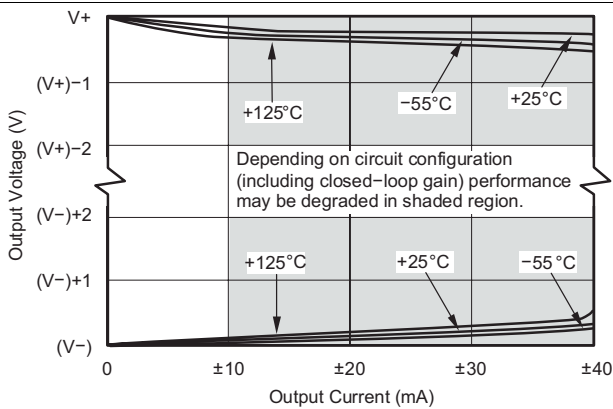
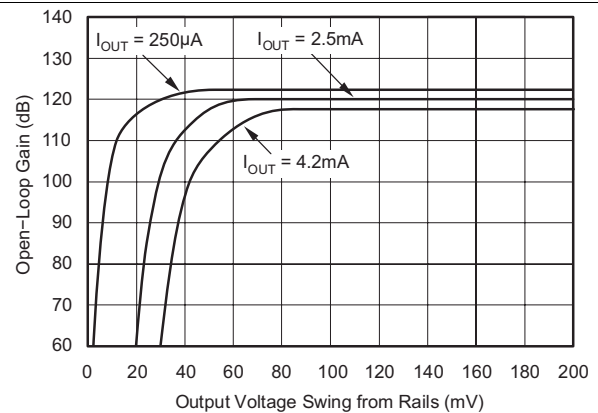

Figure 17. Output Voltage Swing vs Output Current
Figure 18. Open-Loop Gain vs Output Voltage Swing
(5) See Figure 17.
A class AB output stage with common-source transistors achieves rail-to-rail output. For light resistive loads (>10 kΩ), the output voltage swing is typically ten millivolts from the supply rails. With heavier resistive loads (600 Ω to 10 kΩ), the output can swing to within a few tens of millivolts from the supply rails and maintain high open-loop gain. See Figure 17 and Figure 18 for more information.